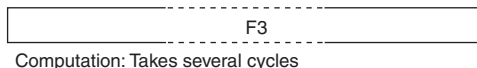

Figure 8.1 Basic Pipelines
Figure 8.1 shows the basic pipelines. Normally, a pipeline consists of five or six stages: instruction fetch (I), decode and register read (D), execution (EX/SX/F0/F1/F2/F3), data access (NA/MA), and write-back (S/FS). An instruction is executed as a combination of basic pipelines. Figure 8.2 shows the instruction execution patterns.